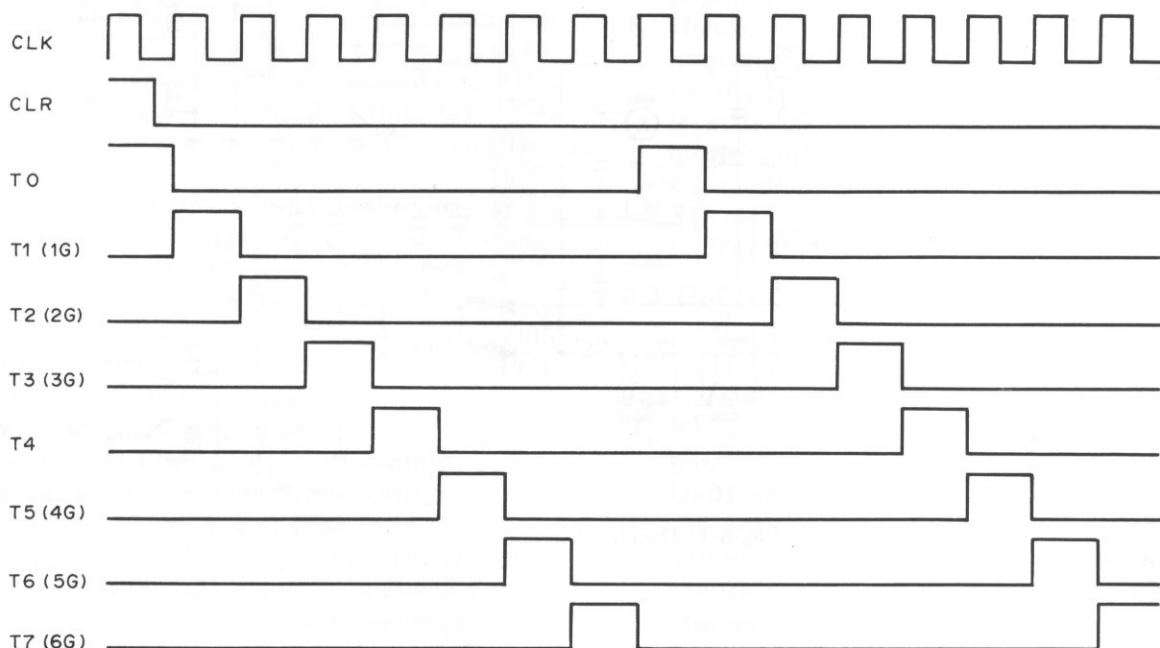

Fig. 6-3 F.L meter drive circuit
2. These divided clock pulses are then transferred as output signals from the T0 ~ T7 output terminals (see Fig. 6-3), and used in the generation of time shared reference voltages at points (A), (B), (C) and (D). These reference voltages are then compared with the IC909 output signals (level meter drive analog signals) at IC804 (IC805 for the right channel) where the analog/digital conversion is performed. The FL